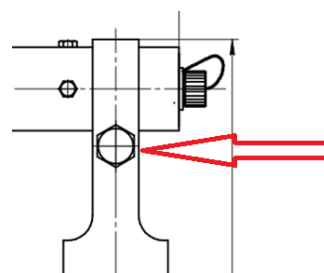

Figure 3. Installation of the DN-130(P) in enclosed configuration
2. Assemble the DN-130(P) together with support rings and install it over the hole of tank, so that the sensor's stands are perpendicular to the horizontal plane;
7. Assemble the sensor without tightening a bolt on stand (see Fig. 3).
9. Tighten the bolt (see Fig. 3).